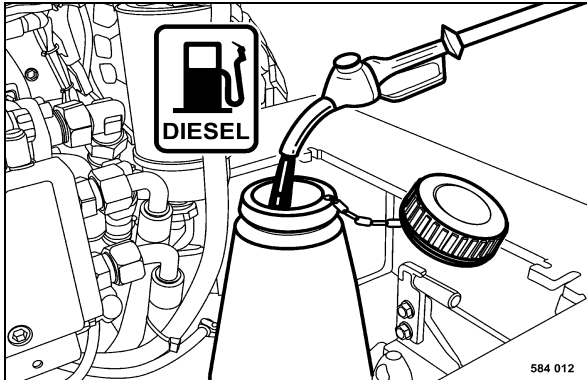

Fig. 123
- Open the fuel tank cover (Fig. 123).